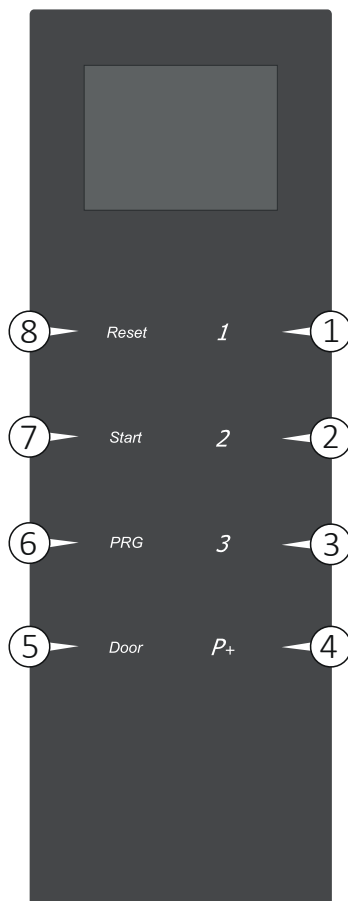

Fig. 15
To select the programs available, use key P1, P2 or P3 (see Fig. 15) depending on the most suitable program for the level of dirt of the load.
- Open the door with the DOOR key (5 Fig. 15) on the control panel to introduce the basket.
The door can be unlocked and opened at any time before the program starts, by pressing the DOOR key (5 Fig. 15).
To select the programs available, use key P1, P2, P3 or P+ (to select programs from 4 to 40) on the control panel (Fig. 15).
To start a program, press the START key (7 Fig. 15).
The message «Finish» with a green background on the display indicates that the program has been carried out correctly. Unlock the door by pressing the DOOR key (5 Fig. 15) and open it.
- 2) With the machine started and door closed, the screen for selecting the programs will appear. Press the selected key (P1, P2 or P3 Fig. 15) on the control panel. To access subsequent programs (if stored), press the key P+ several times.
- 4) Optional: enter the user password: use the key P1, P2, P3, RESET, START and PRG on the control panel to digit the correct password (See Fig. 15 for key description).